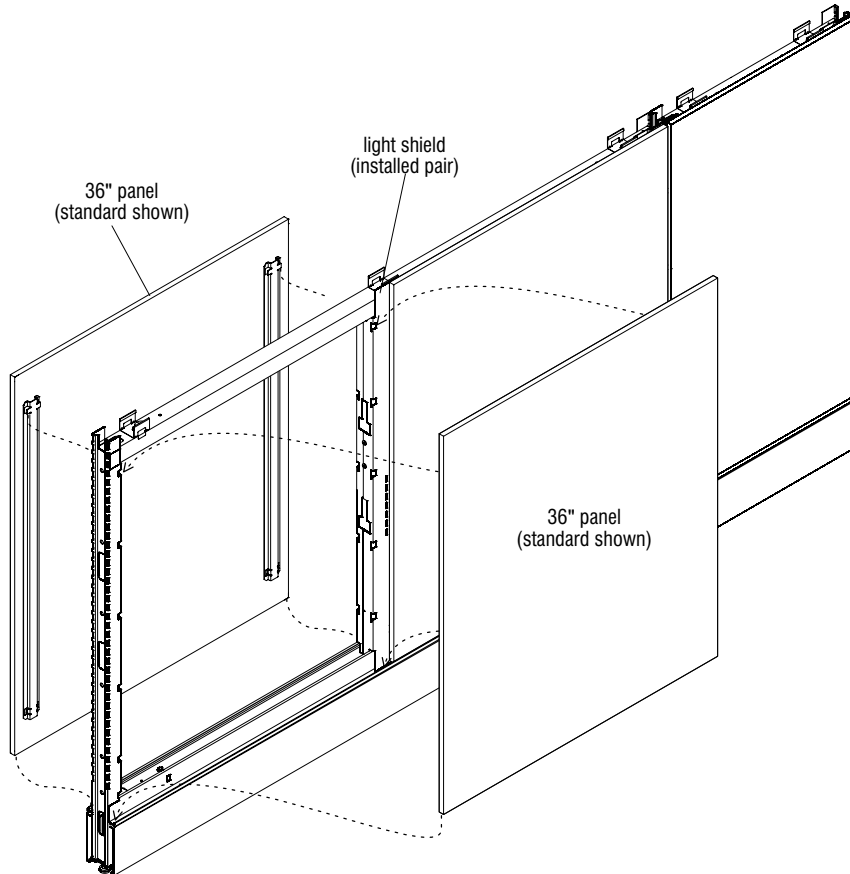

**Figure 6 - 72" Panel Frame, Split-Tile Light Shield**
3. Center and set the bottom edge of each light shield into the outside, top of the bottom trim channel as illustrated at each side of the panel frame. Use the panel frame support bracket to align both light shields directly on center. Make certain that the light shield is positioned to the outside of the trim at both sides, such that the notches in the bottom of the light shield capture the top of the bottom trim channel (Figure 6).
4. Measure horizontally at the top of the split-tile panel frame and mark the exact center, then center the pair of mated light shields and use a spirit level to assure the pair is exactly vertical. Finally, align the mounting holes at both sides and secure using a minimum of two #8 x 3/4" Phillips pan head (38.12.5048) at each side (Figure 6).